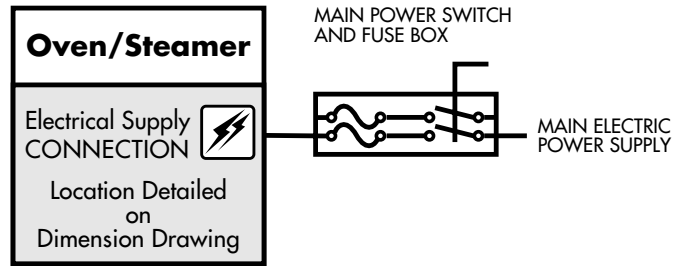

Figure 2-5. Recommended Electrical Layout
Figure 2-5 illustrates an electrical layout recommended by the Manufacturer.
- 3- Turn off the electrical power to the unit at the main power switch (Refer to figure 2-5, Recommended Electrical Layout).